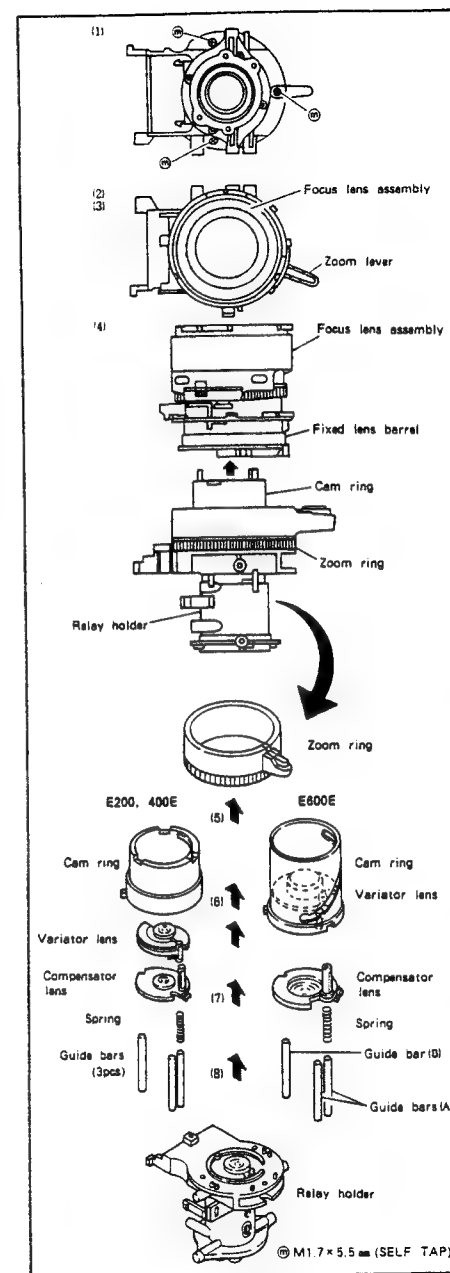

Fig. II-24
- (1) Remove three screw ⑨s.
- (2) While steadying the zoom section, turn the focus lens assembly up.
- (3) Set the zoom lever on the position as shown in the Fig. II-24.
- (4) While steadying the zoom ring, dismount the focus lens assembly and the fixed lens barrel upward.
- (5) Remove the zoom ring.
- (6) Remove the cam ring.
- (7) Remove the variator and the compensator lenses.
- (8) Remove the spring and three guide bars. (E200, 400E only)
- (9) Remove the spring and guide bars (A) x 2, (B) x 1. (E600E only)